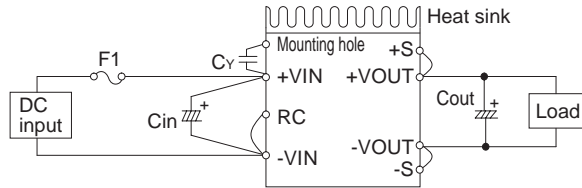

Fig.2.1 Connection for Standard Use
■The power module needs input and output connection as shown in Fig.2.1.
■A decoupling capacitor Cv must be used to reduce the line noise on the input line and stabilize the power module operation (Fig. 2.1). Note that resonance and inductance from the input line filter may cause the power module to become unstable.
■An external capacitor  $C_{in}$  must be installed between +VIN and -VIN to reduce line noise and stabilize the power module operation (Fig. 2.1).
■Install an external capacitor  $C_{out}$  between +VOUT and -VOUT to increase stability of output (Fig. 2.1).